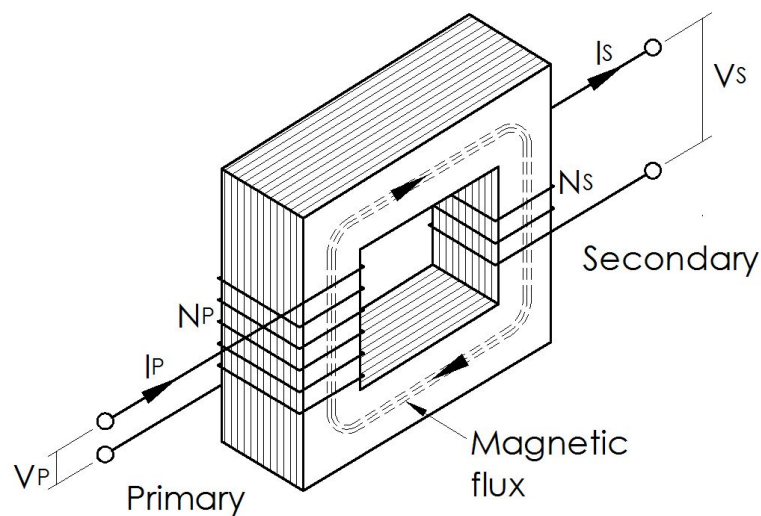

Figure 4.1 Principle of operation of a transformer
**Figure 4.1** shows a coil wound around a "closed" iron core. When a current flows through the coil, all (except for a very small amount of leakage flux) the magnetic lines of force (flux) pass through the *closed magnetic circuit*.